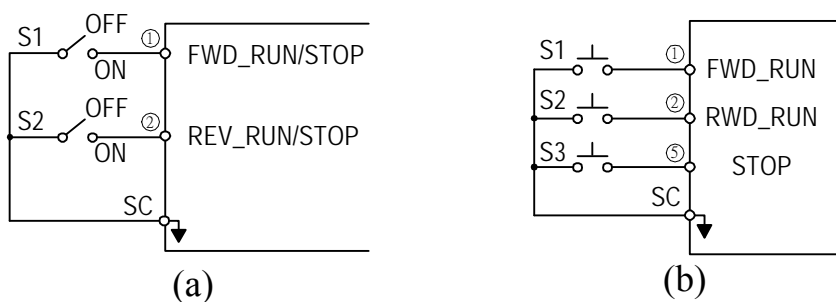

Fig. 38 2-wire mode connection diagram
- Under a standard 2-wire initialization mode as shown in Fig. 38(a), S1 and S2 can not be both “ON” at the same time. When S1=“ON” and S2=“OFF”, the motor is FWD running. When S1=“OFF” and S2=“ON”, the motor is REV running. When S1=“OFF” and S2=“OFF”, the motor stops running.
- When Sn-25=’01’, the 2-wire operation mode has its self-sustaining function. Only through the multi-function input terminal ⑤, the operator can stop the inverter after pressing the “STOP” key as shown in Fig. 38(b). As shown in Fig. 38(b), the switches S1, S2 and S3 do not need to be the self-sustaining switches. When S1 is depressed “ON”, the motor will be forward running. After S3 is depressed “ON”, the motor will stop. When S2 is depressed “ON”, the motor will be reverse running. After S3 is depressed “ON”, the motor will stop.